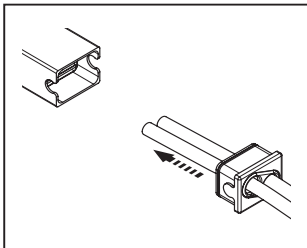

Figure 3: Sealing cap on the container
3. Thread the two cables through the designated holes in the sealing cap (Figure 3).